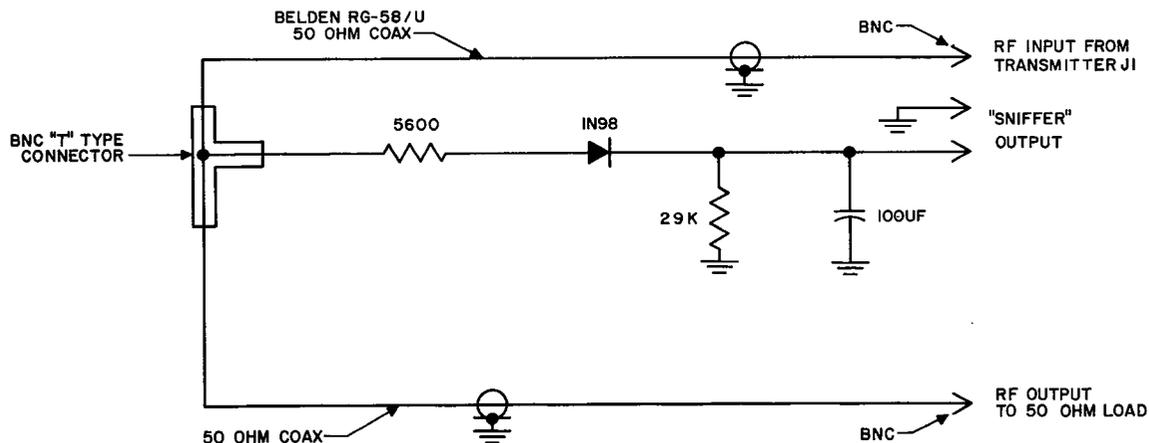

Figure 5-4. Sniffer-Detector Circuit
a. Connect the vertical input of an oscilloscope to the sniffer output of the sniffer-detector circuit as indicated in figure 5-4. Connect the sniffer circuit to the 618F-1() (J1) and to the r-f load.